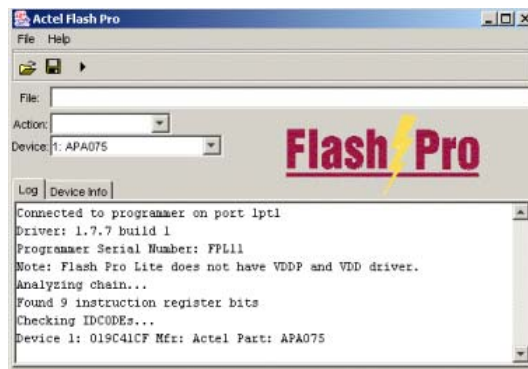

Figure 2-32. FlashPro: Analyzing Chain
1. From the File menu, click **Analyze Chain**. Chain details appear in the **Log** window, as shown in Figure 2-32. If any failures appear, refer to the error and troubleshooting section of the *FlashPro User's Guide* at: <http://www.actel.com/documents/flashproUG.pdf>